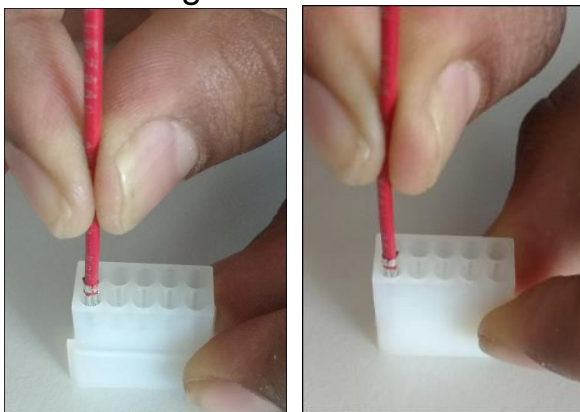

Fig.2
2. Hold the terminal vertical and Insert or push it gently in to the housig as shown in fig.2